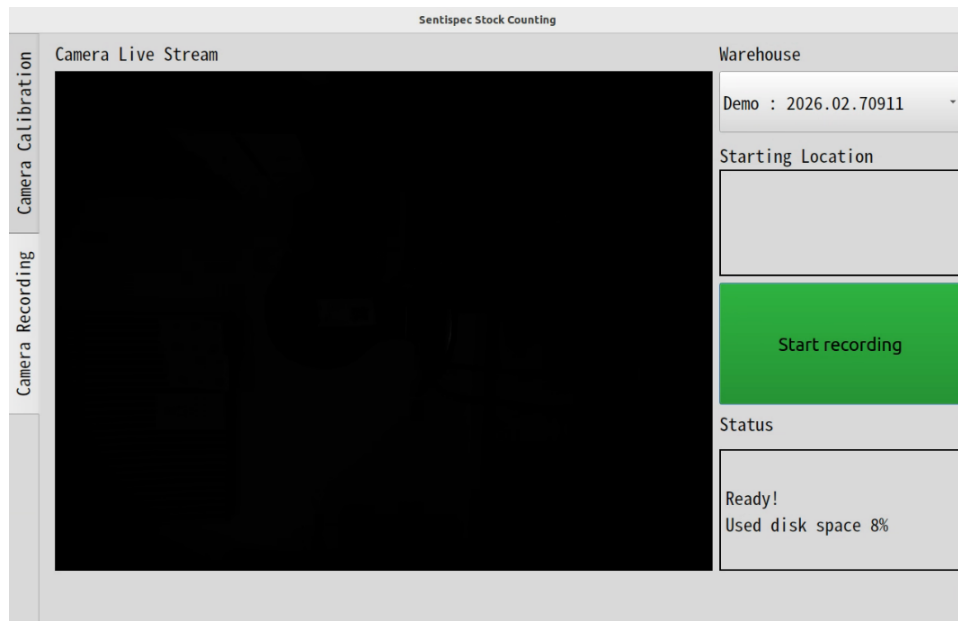

FIGURE 2-11 - USER INTERFACE IN READY STATE
5. Wait until the system screen has been loaded and displays the "Ready" state, see Figure 2-11 - User interface in ready state.
- Click on the **Warehouse** drop-down menu (see Figure 2-11 - User interface in ready state).
10. When the recording of a new section has been completed, lower the forks and press "Stop Recording" button on the touch screen. This will finalize the recording and bring the system to "Processing" state and finalize once the "Ready" state as shown in Figure 2-11 - User interface in ready state.